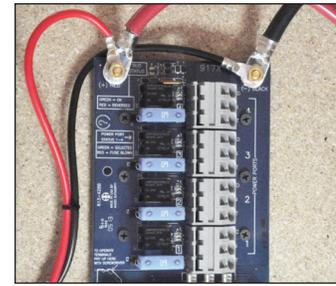

Figure 18. 917X DC Connection.
3. Connect the red and black 4-gauge wires to the large color-coded red and black, terminal posts on the 914X or 917X. Connect the red wire to "BAT+" and the black wire to "BAT-" using a 7/16" nut driver or open end wrench. Be sure to tighten the nuts snugly so that the ring terminals are well seated on the terminal posts\*. While connecting the initial run of red and black wire to the next 914X or 917X module, also connect a separate 4 gauge red and black set of wires to the 914X or 917X terminals (Figure 18) for final connection to your system's DC power supply or battery.